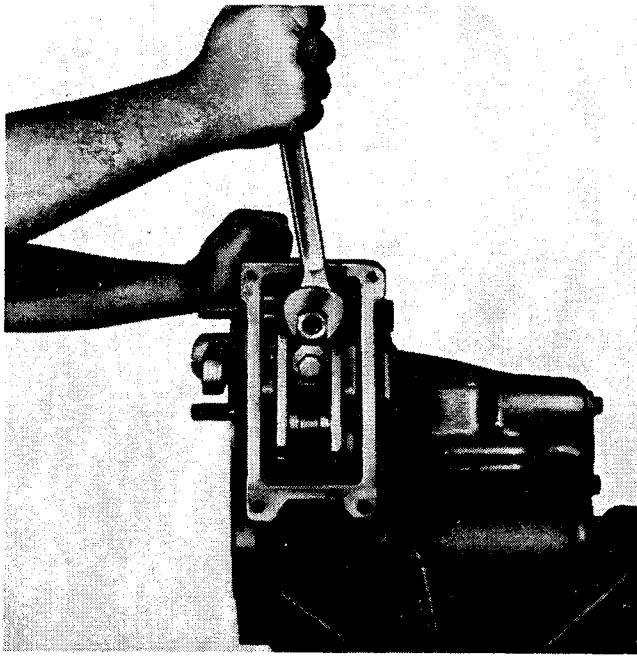

Fig. 13 — REMOVING BRAKE BAND ADJUSTING NUT
3. Remove brake band adjusting nut. See Fig. 13.